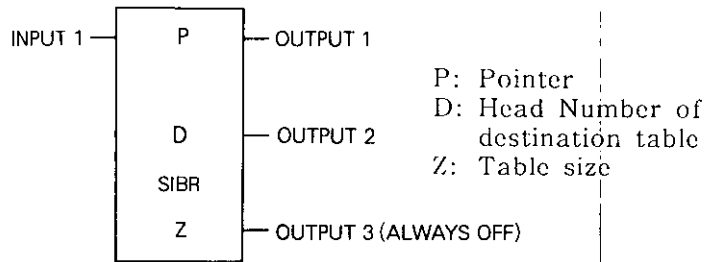

Fig. 5.71 SIBR General Form
- Fig. 5.71 shows the form of block move 2 with source index (SIBR).